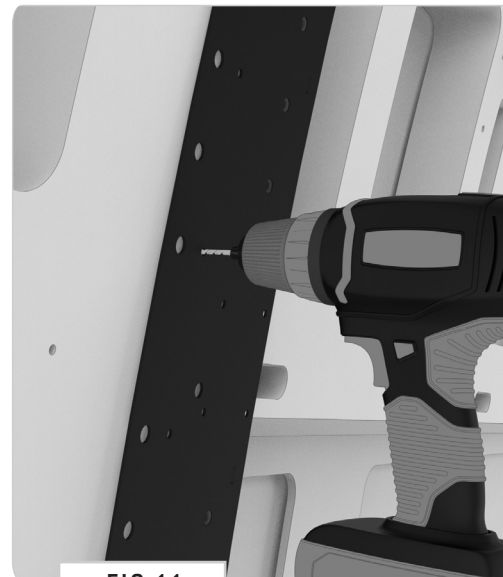

FIG 11
5.2 Securing the Passenger Side Rear Bracket: Double-check your measurements against your marks and proceed to secure the **Passenger Side Front Bracket** by drilling through all of the **Rivet Holes** (FIG 11) and painting with a rust preventative paint.